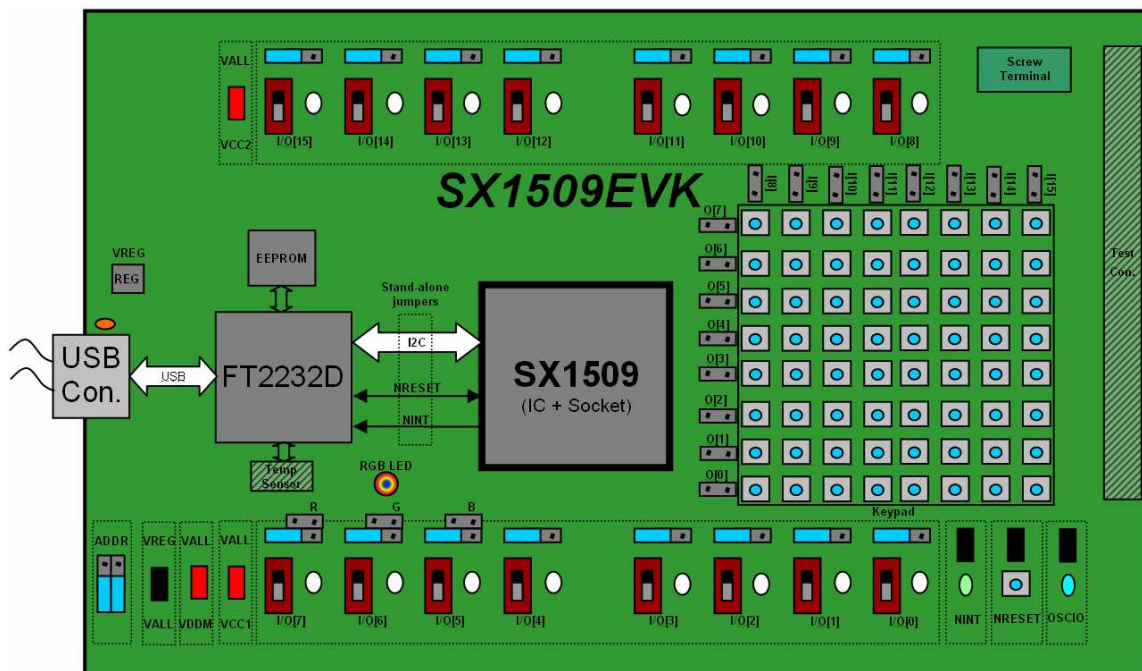

Figure 4: SX1509EVK Board Concept
- ⇒ Jumper on left position (Cf. *Figure 4*): IO is connected to a switch to control an input state. Switch up => VCC_x applied; Switch down => GND applied. No hardware debouncing circuit is added (debouncing can be done inside the SX1509) but only a serial resistor to prevent potential short circuit when manipulating jumpers.